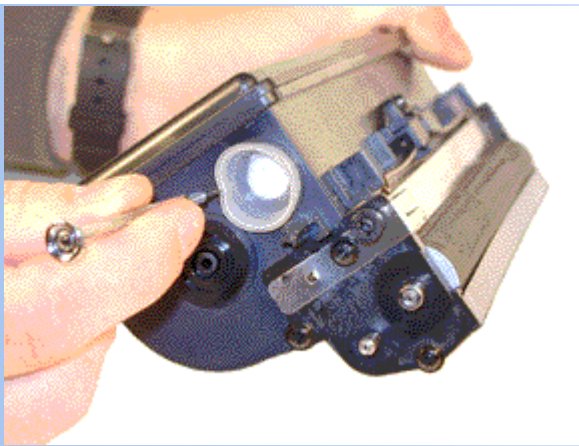

FIGURE 12
9. Remove the fill plug from the toner supply and dump/vacuum out the remaining toner. See Figure 12